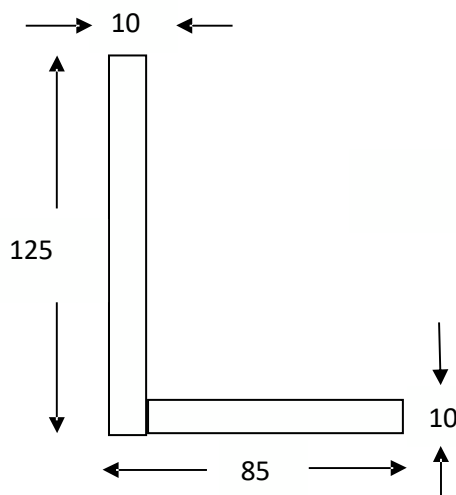

Fig.6
- a. Determine the moment of inertia of the L-section as shown in figure 6 about its centroidal axis parallel to the legs. All dimensions are in mm.